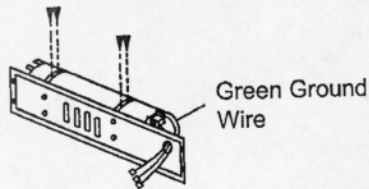

Figure6 Attaching Bracket To Blower
9. Attach the two brackets to blower housing using four white screws provided in blower kit (2 for each bracket)(see Figure 6). Tighten screws securely. Then guide the green grounding means wire and downlead of motor through the rubber capped hole.